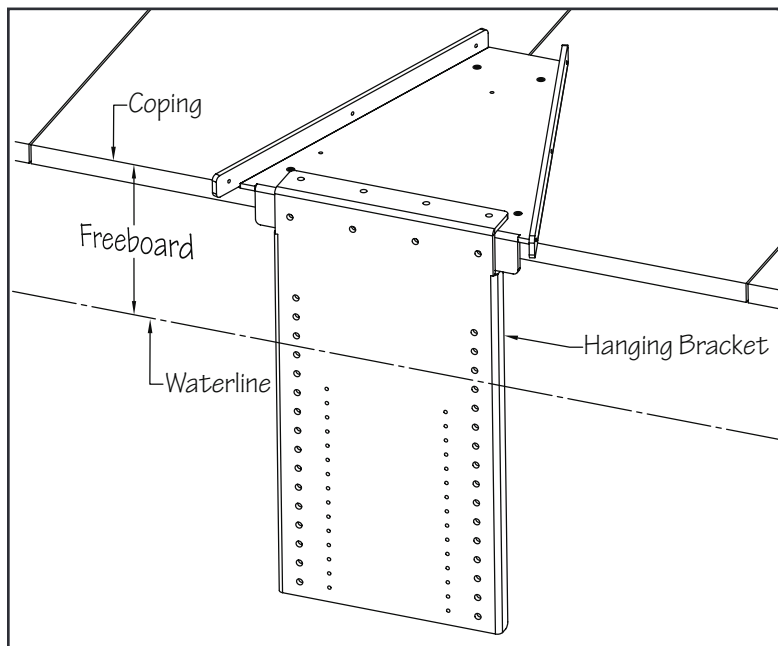

Fig. 9.1
9.1 Loosely secure the hanger bracket to the hose cover tray with one of the provided 1/2" (13mm) screws. Measure down from the top of the hanger bracket to the water line to capture the freeboard measurement. Once the measurement has been taken, remove the hanger bracket (Fig. 9.1).